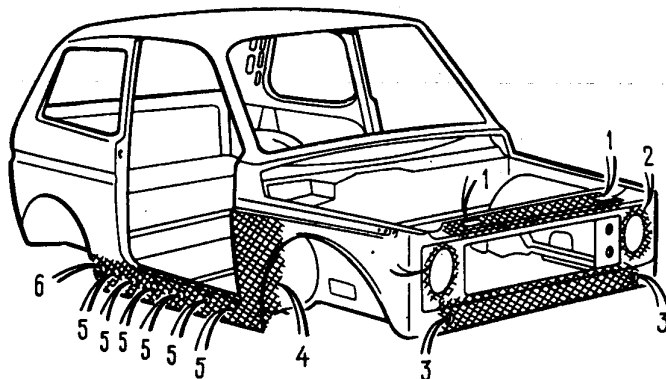

Fig. 8-6. Boxed Spaces (Body Front View):
4. Drive the car to the anticorrosion-treatment chamber and put it on a lift. Spray the anticorrosive compound onto the surfaces shown in Figs 8-6, 8-7 and 8-8. The treatment should be performed at a temperature not below 15 °C.